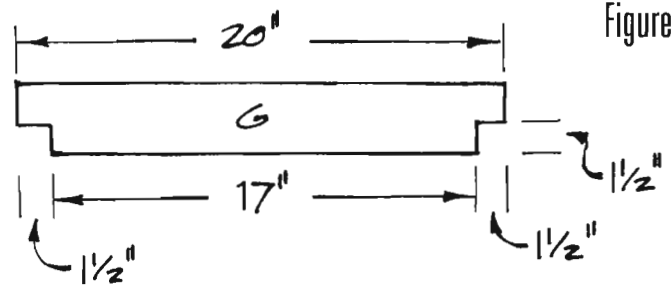

Figure 4
1. Each shelf is composed of five 1 x 4 pine slats that are held in place by the shelf supports (F).
2. Cut five shelf slats (G) from 1 x 4 pine, each 20 inches long.
3. The two outermost slats of the shelf must be notched to accommodate the legs. Using the cutting diagram shown in *Figure 4* as a guide, notch two of the five shelf slats (G).